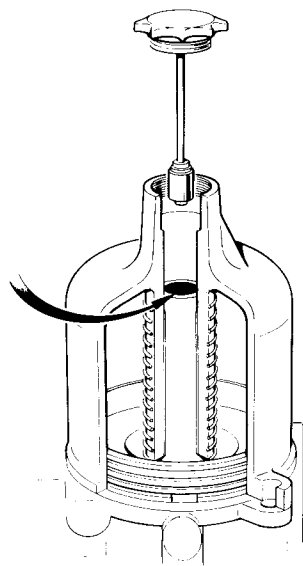

Fig. B23. Removal of the carburettor damper piston
5. The right side carburettor can now be bolted into position and the fast idle rod clipped in place on the butterfly fast idle lever. (Fig B23).